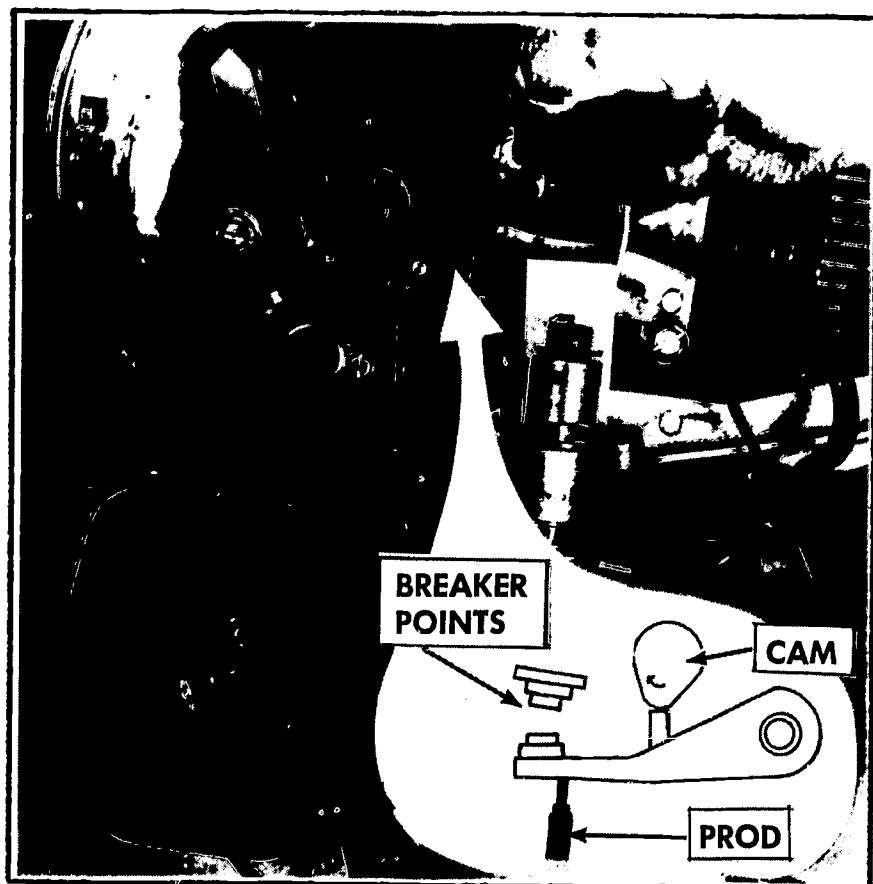

FIGURE 118. Checking the coil with a 6-volt lantern battery tester.
3. Remove the spark plug and ground it on the engine as shown in Figure 118.
7. Strike the movable breaker-point arm with the test prod (Figure 118).